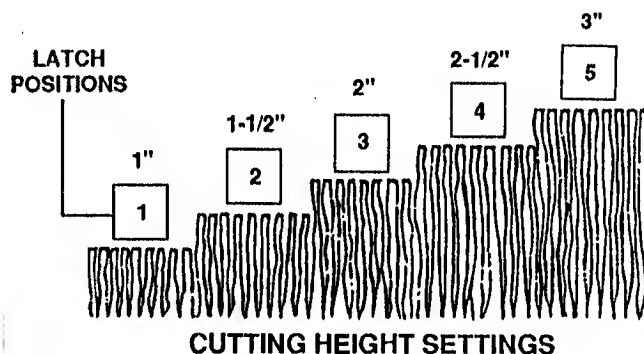

FIGURE 2.6
- B. Set all wheels at same cutting height. The highest cutting position is Notch 5; the lowest cutting position is Notch 1. See Figure 2.6 for cutting height settings.